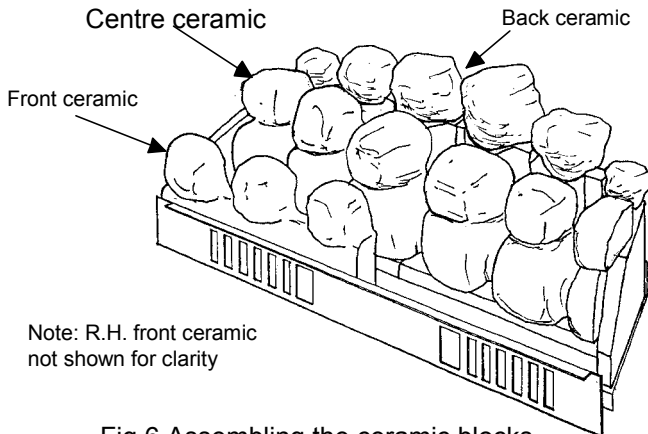

Fig.6 Assembling the ceramic blocks
3. The ceramic components are fragile and should be handled with care. Refer to Figs. 6 and 7 for positioning of ceramic fibre blocks and coals.
13. Replace the ceramic blocks and coals (see Figs. 6 and 7).